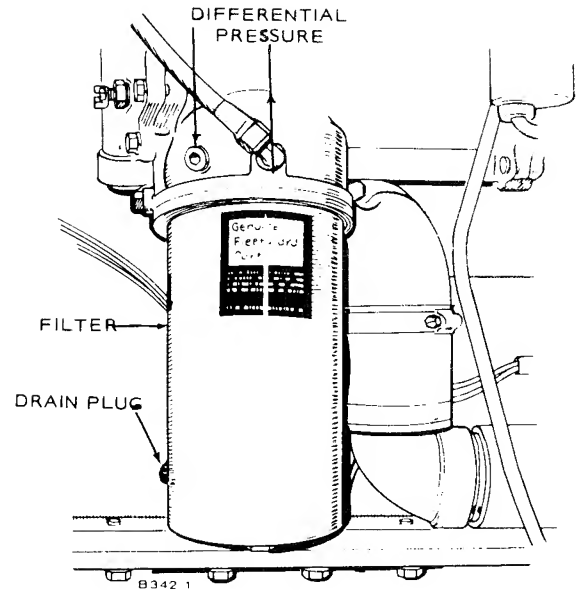

FIGURE 7. LUBRICATION OIL FILTER
1. Remove drain plug (see Figure 7) and allow oil to drain.